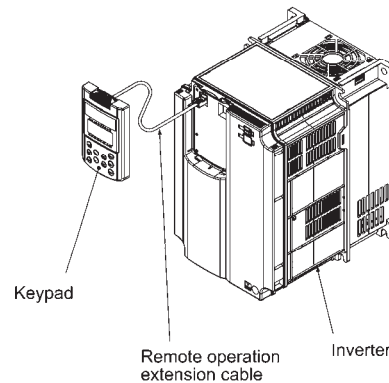

Figure 2.3-3 Using the Keypad Remotely in Your Hand
- Using it remotely in your hand (see Figure 2.3-3).